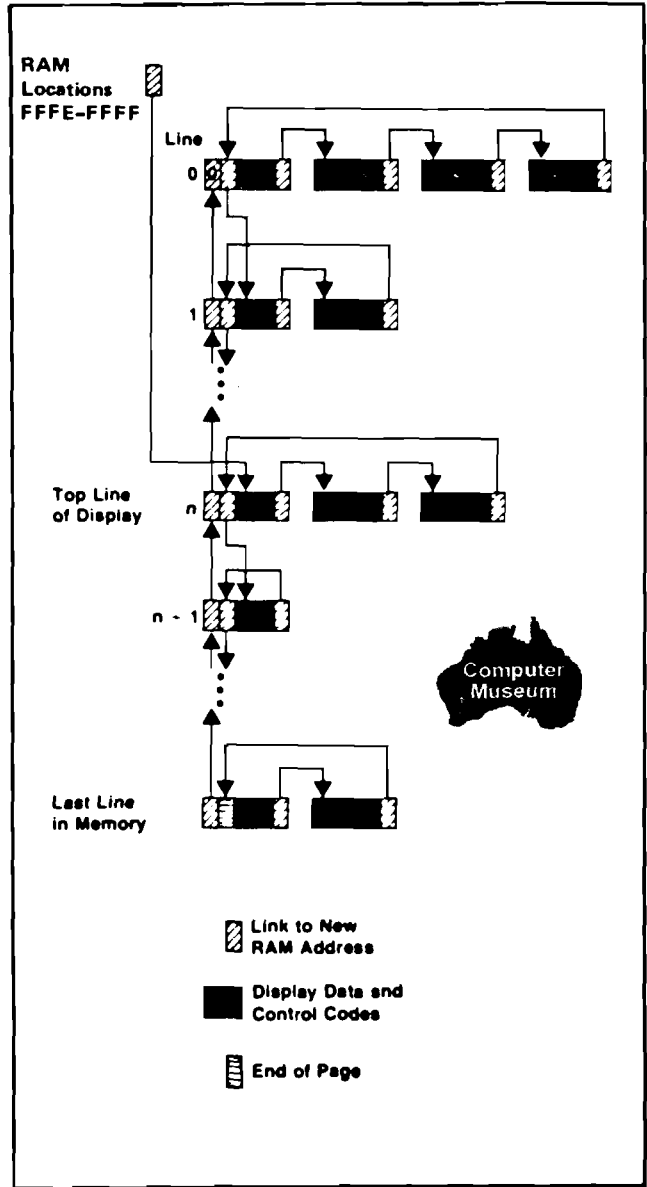

Figure 1
The display memory from 52K to 63K is logically divided into fixed-size sixteen (16) bytes blocks of RAM. All display memory from 52K to 63K not currently allocated is kept in a forward-linked list pool of free storage. The storage allocated for a row may be as little as one (1) block or as much as fourteen (14) blocks. Memory currently allocated is linked as follows: Individual rows from a doubly-linked list; i.e., an individual row is linked to the previous row and to the following row. Blocks within a row are linked only in the forward direction. (See Figures 1 and 2a, b, c and d.)